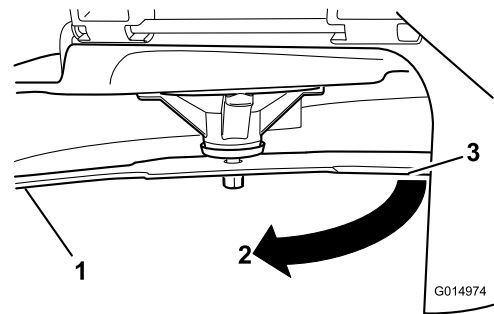

**Figure 74**
3. Measured distance between blade and the surface (A)
4. Rotate the same blade 180 degrees so that the opposing cutting edge is now in the same position (Figure 74).